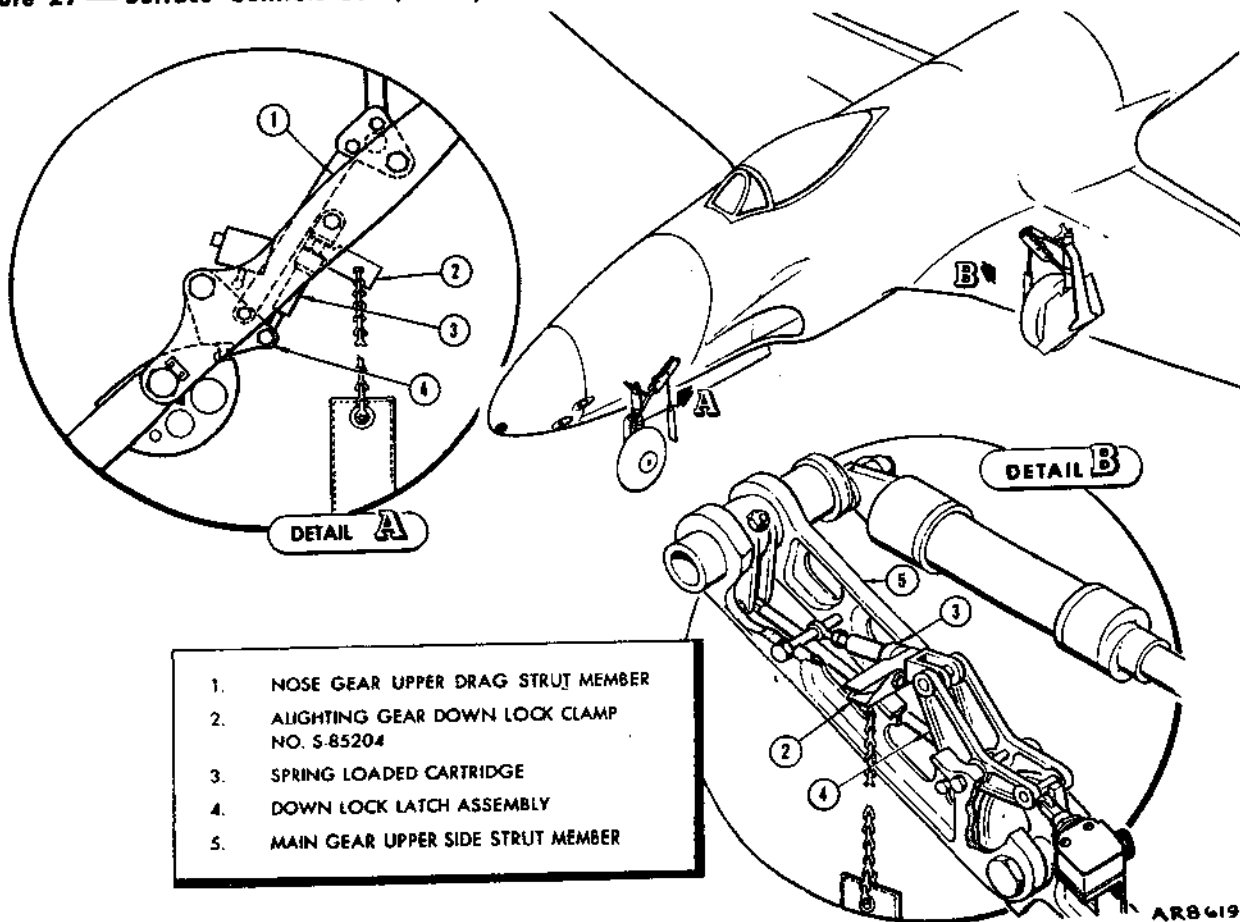

Figure 22 — Installation of Alighting Gear Safety Clamp
(3) LOCKING THE ALIGHTING GEARS. (See figure 22.) The nose and main alighting gears may be locked in the down position with the alighting gear down lock clamp No. S85204. The clamp is attached